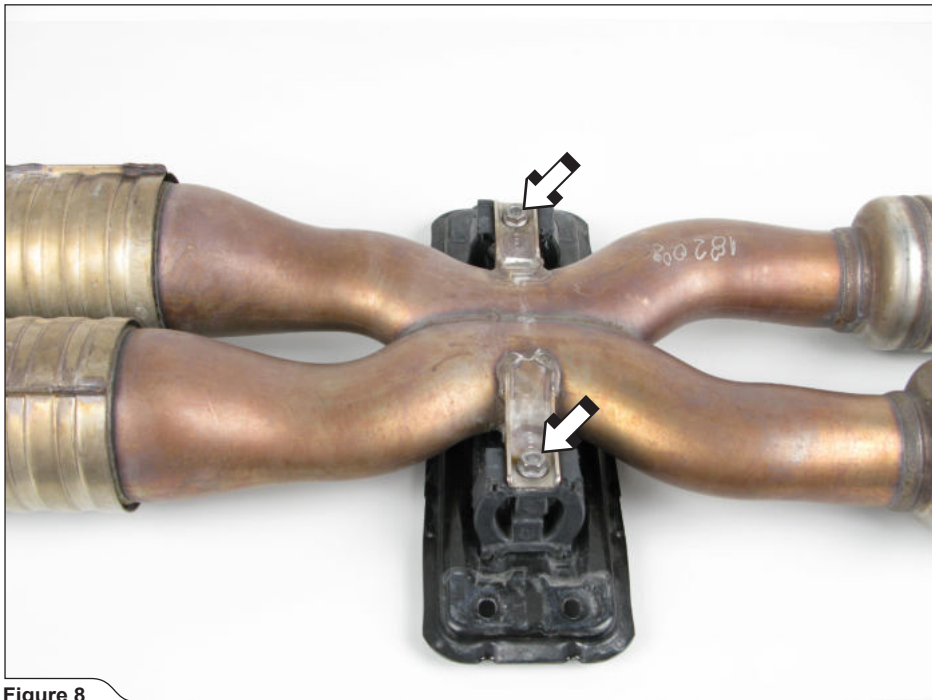

Figure 8
8. **For Evolution:** unscrew the marked nuts and remove the bracket from stock middle pipes (**Figure 8**).